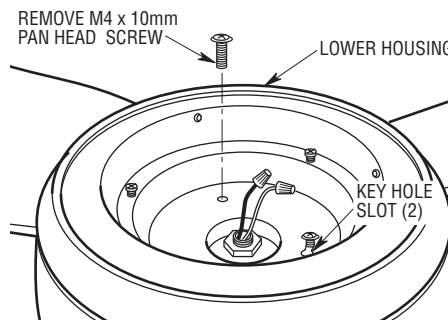

Figure 2
- 4. Remove one of the three screws in the motor housing assembly and loosen the remaining two screws (Figure 2).
- 5. Attach the lower housing assembly to the fan motor using the two key slot holes (Figure 2). Secure the lower housing assembly by tightening the two screws. Reinstall the screw that was previously removed.